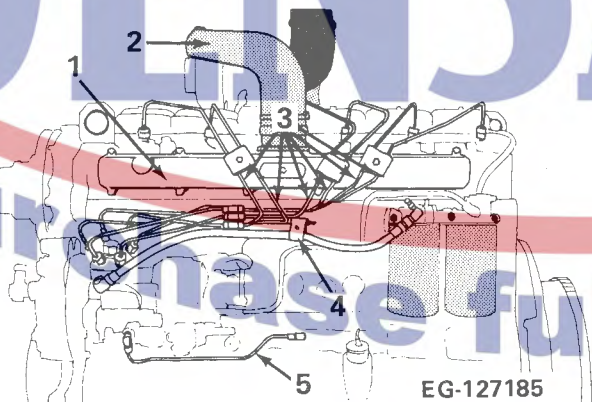
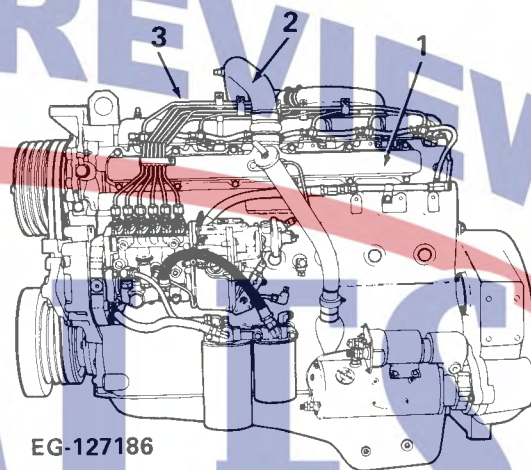

Figure 3 – Left Side View DT-466 (w/UTDS* Model 100 Fuel Injection Pump)
Figure 3a – Left Side View DT-466C (w/Robert Bosch Model MW Fuel Injection Pump)
1. Disconnect Turbocharger crossover tube (2, Fig. 3 or Fig. 3a) (if equipped) from intake manifold (1).
- a. Disconnect fuel lines (3, Fig. 3 or 3, Fig. 3a) at injection nozzles and pump.
- b. (Engines equipped with UTDS* Model 100 Fuel Injection Pump only) Loosen clamp (4) securing fuel lines to the hose connecting final fuel filter to injection pump.